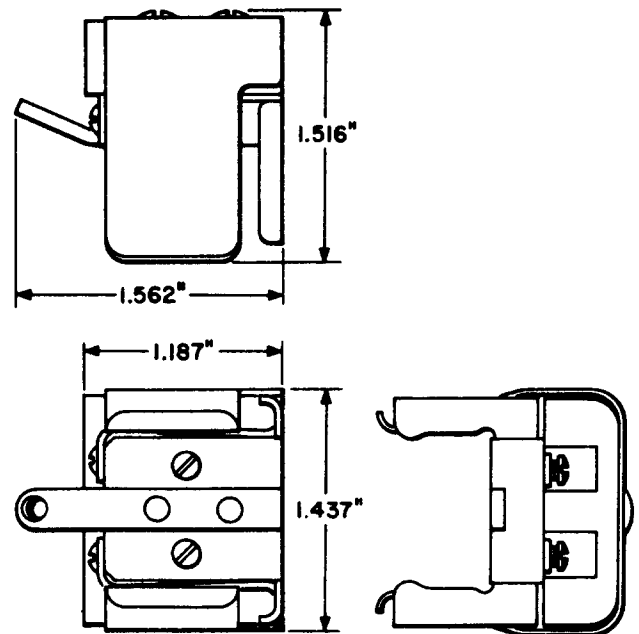

Fig. 12—314A Plug
2.11 314A: The 314A plug (Fig. 12) has two contact springs mounted on a block of insulating material. A spring clip is provided for attachment to the 289B or 396A plugs. The springs make contact with the sleeve shoulder of the two fingers. The 314A plug is used as a monitoring plug to bridge an instructor telephone receiver on the receiver circuit of an attendant at a non-multiple Private Branch Exchange (PBX) switchboard, and is used with the L2K cord.